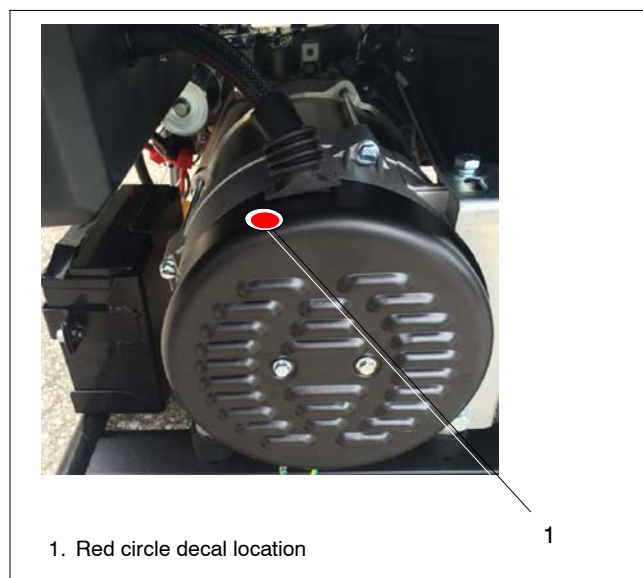

Figure 5 Red Circle Decal Location
11. Install the 2 screws to hold the cover in place using the 8mm socket. See Figure 5.
12. Affix one red circle decal, included with the service bulletin mailing, to the top of the rear cover. See Figure 5 for location.